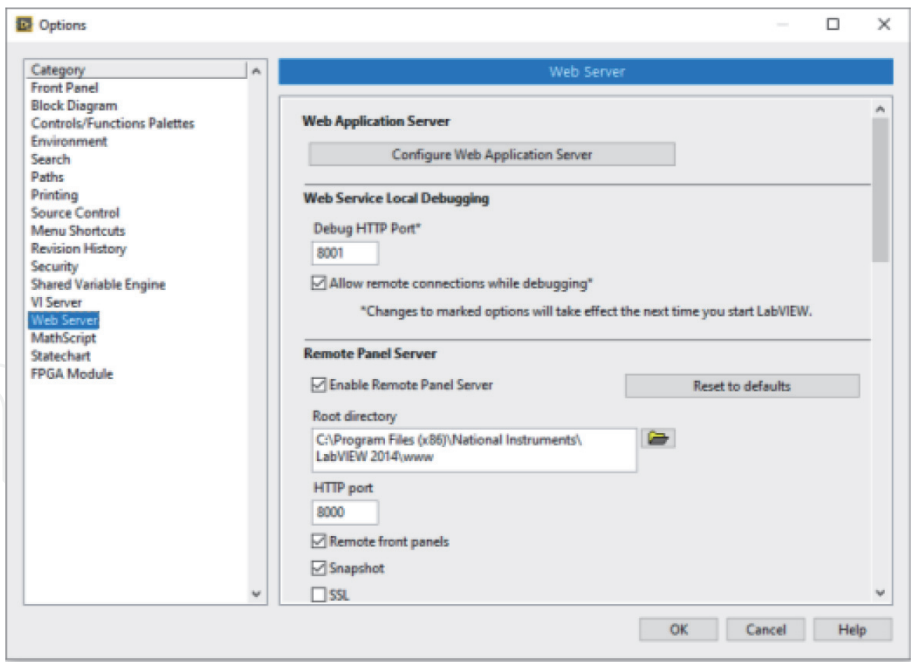

Figure 21.
3. Under the Remote Panel Server section, check **Enable Remote Panel Server** (Figure 21).